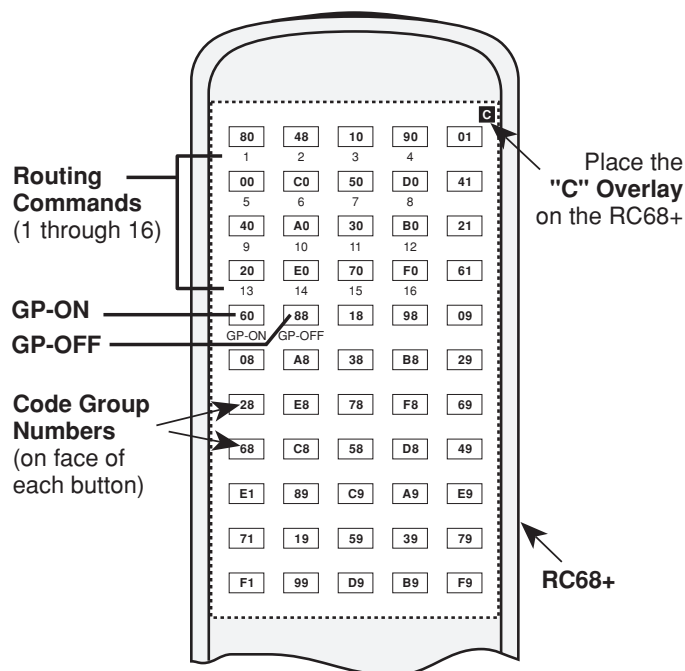

Fig. 3 RC68 Programmer
The RC68+ (or RC68) Programmer (available separately) contains all the commands necessary to operate the RT16-10 (see Fig. 3).
APPLICABLE RC68+ BUTTON DESCRIPTIONS (use "C" overlay, Fig.3)
3. The RC68+ commands **1** through **15** (see **Fig. 3**) will establish an IR route to each TV individually. The **Group On** command will route to all 15 TV's simultaneously.